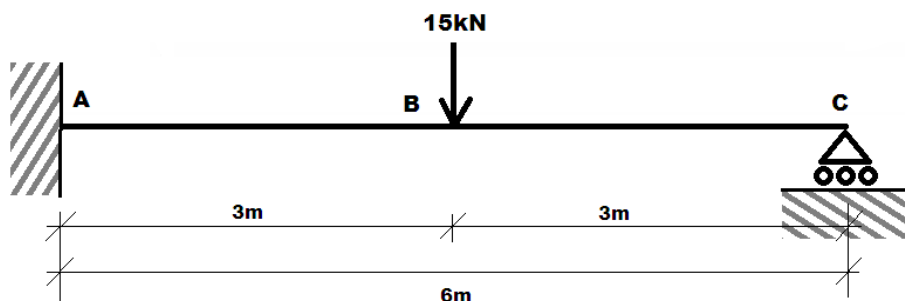

Figure Q2
- (i) Figure Q2 shows a propped cantilever fixed at A and supported on a roller at C. It carries a point load of 15kN at mid-span. By taking the support at C as the redundant reaction,